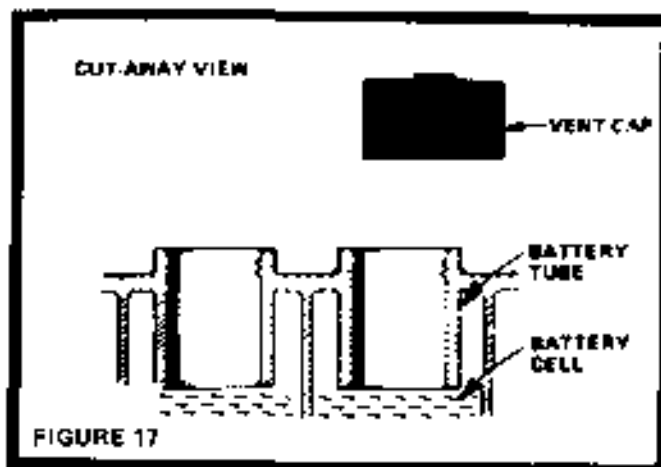

FIGURE 17
- Electrolyte solution level in each Battery Cell should be even with bottoms of tubes in cells (Fig. 17). Add distilled water if necessary. **NOTE: DO NOT OVERFILL.**